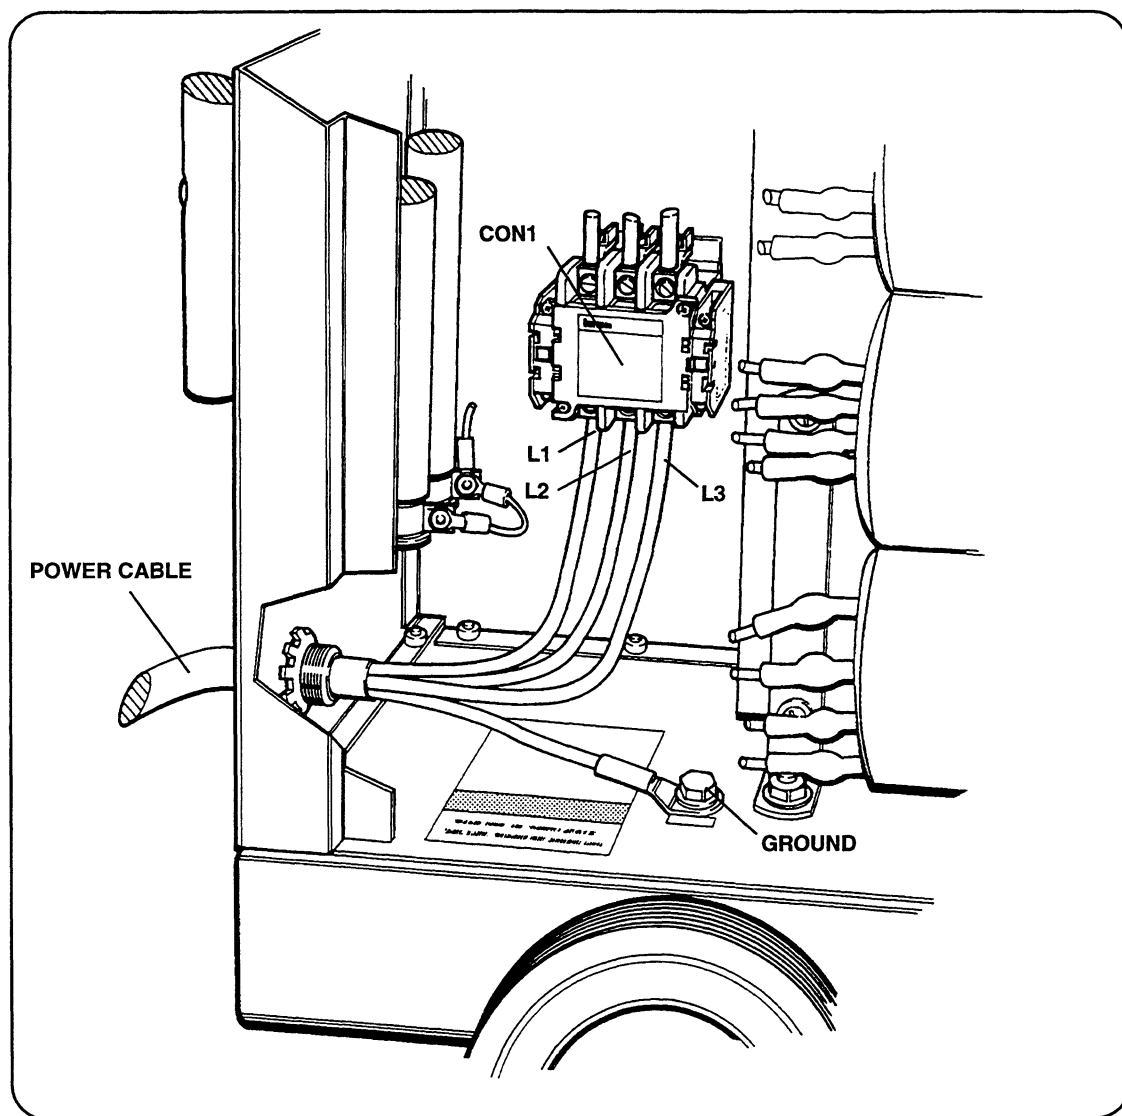

Figure 3-2 MAX100 Primary Power Connections
2. Connect the three hot lines of the power cable to **L1, L2 & L3** on the **CON1** contactor located in the rear, lower left hand side of the MAX100. The **GROUND** lead must be connected to the ground stud provided on the case of the machine near the contactors (see Fig. 3-2).